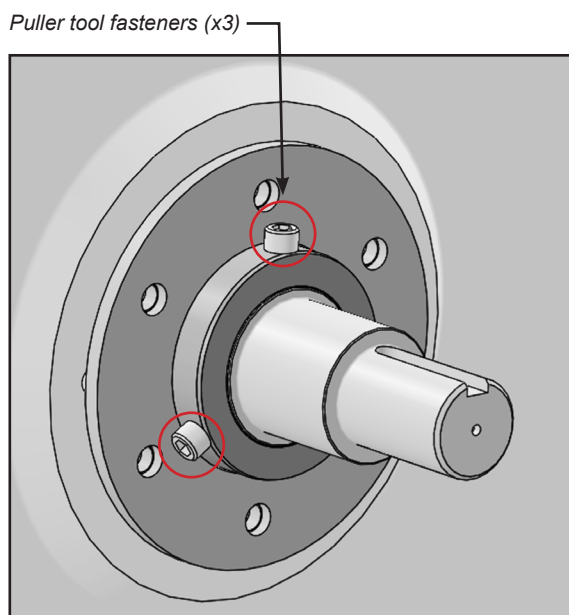

FIGURE 27
15. Install the three supplied puller tool kit fasteners (Kit# 100-123-339 “VJX SMALL SS BSHG REPLT KIT”) as shown (Figure 27). Ensure bolts do not bottom out on rotor shaft.